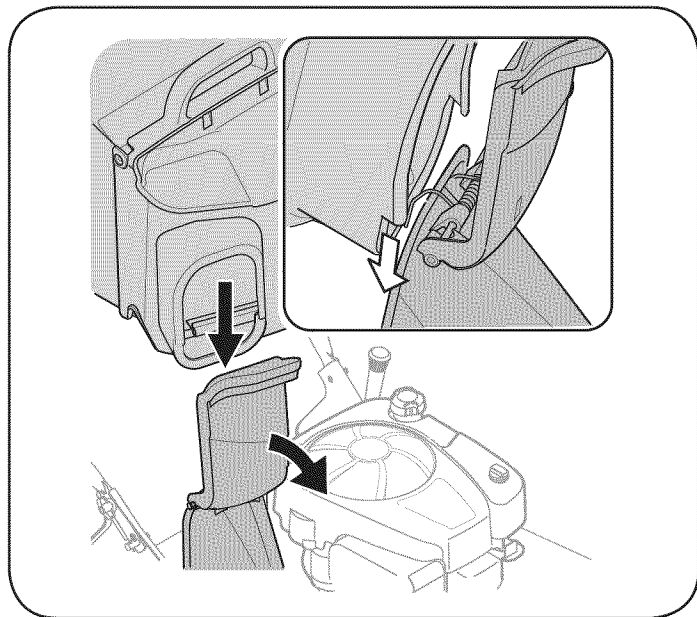

Figure 5
3. Lift chute door on the grass bag adapter and slide grass bag onto the adapter. See Figure 5.